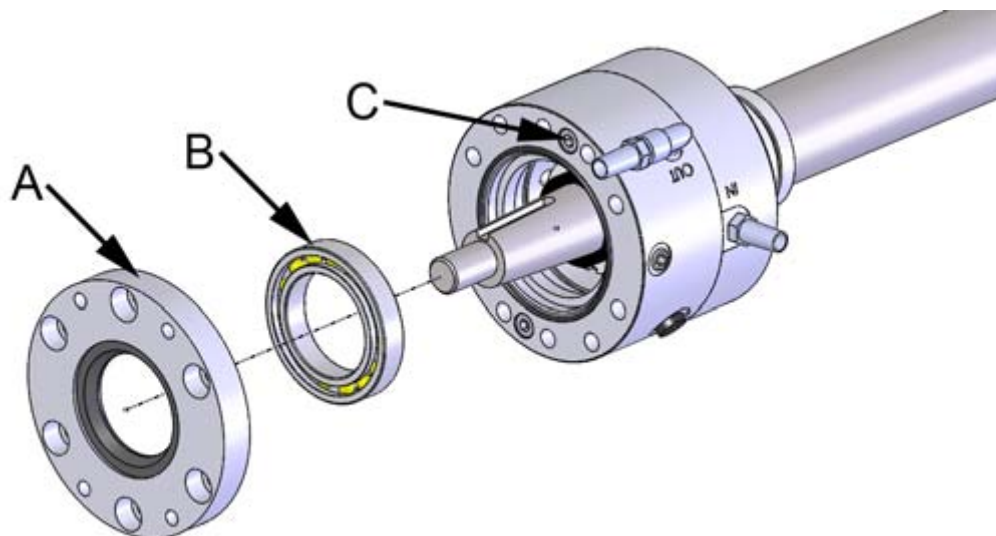
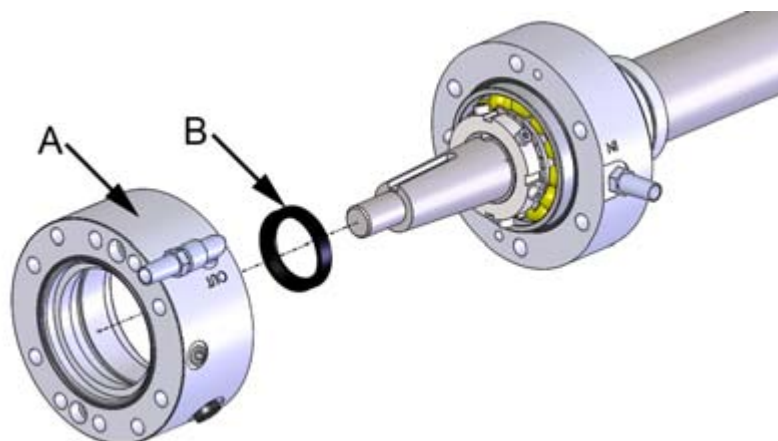

Figure 5. Bearing housing seal cover and drive flange support bearing
Figure 6. Bearing housing cover
6. Remove the bearing housing seal cover (figure 5, point A from the bearing housing together with the drive flange support bearing (figure 5, point B).
8. Open the bearing housing cover screws (2 pcs, figure 5, point C) and remove the bearing housing cover (figure 6, point A).
9. Remove the drive flange shaft seal (figure 6, point B) if you did not already remove it before with the drive flange.